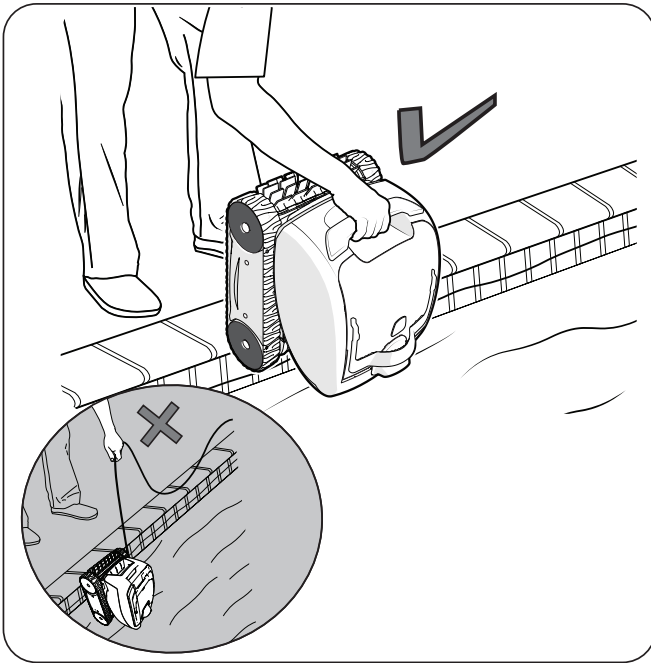

Figure 7. Lift Cleaner From Pool with Handle
2. Use the handle to lift the cleaner from the water (Figure 7). Never lift the cleaner out of the pool by the floating cable.